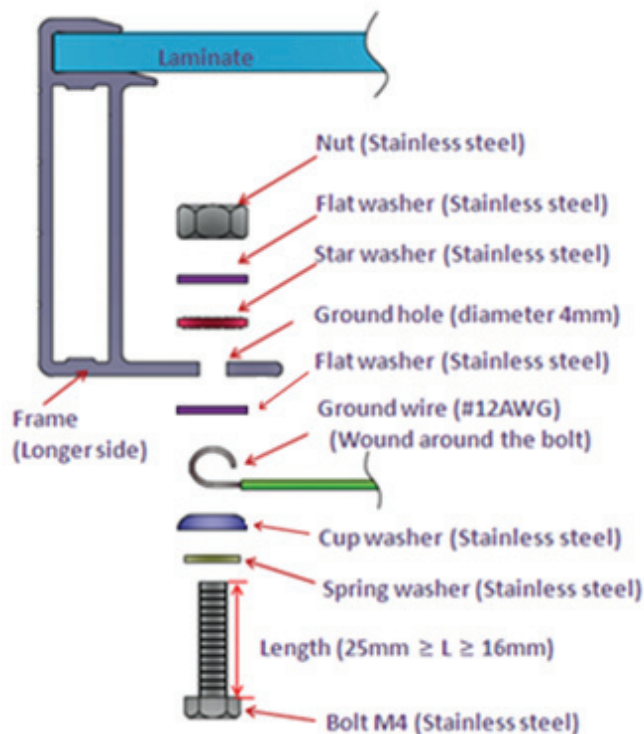
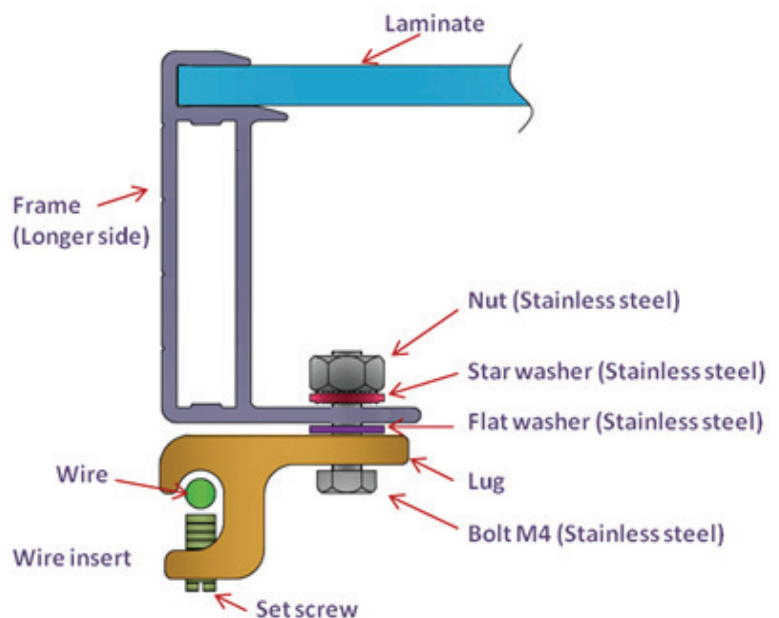

Fig 3.2
Fig 3.3
- All grounding hardware (nuts, bolts, washers, screws, etc.) must be stainless steel unless otherwise specified (it should use corrosion-proof fixing material), as shown in Fig. 3.2 & Fig. 3.3.
- To the grounding hole, secure the grounding wire with stainless steel hardware consisting of bolt, spring washer, flat washer, cup washer, star washer and nut as shown in Fig. 3.2.
- To the grounding hole, secure the lug with stainless steel hardware consisting of bolt, flat washer, star washer and nut as shown in Fig. 3.3.